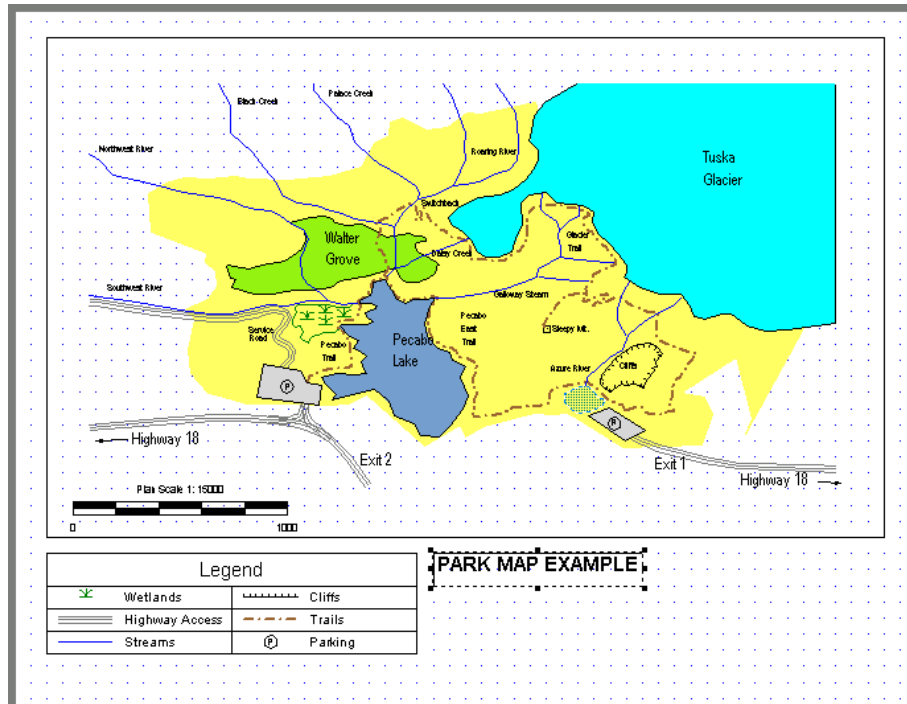

Figure 3-36: Multi-Plot Rectangle
- Change font size to **18** and **bold**. Press OK and position the sub-view as shown in Figure 3-36.